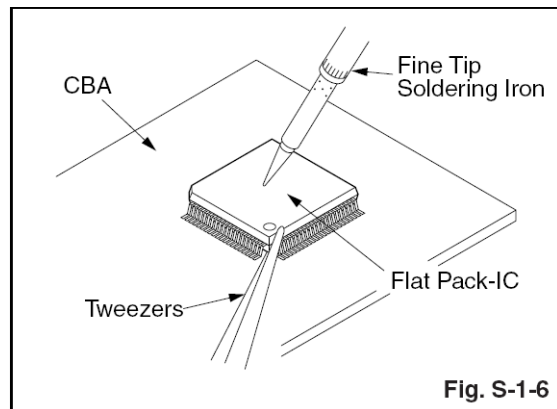

Fig. S-1-6
be melted). (Fig. S-1-6)
4. Release the flat pack-IC from the CBA using tweezers. (Fig. S-1-6)
3. Bottom of the flat pack-IC is fixed with glue to the CBA; when removing entire flat pack-IC, first apply soldering iron to center of the flat pack-IC and heat up. Then remove (glue will be melted). (Fig. S-1-6)
4. Bottom of the flat pack-IC is fixed with glue to the CBA; when removing entire flat pack-IC, first apply soldering iron to center of the flat pack-IC and heat up. Then remove (glue will be melted). (Fig. S-1-6)
5. Release the flat pack-IC from the CBA using tweezers. (Fig. S-1-6)